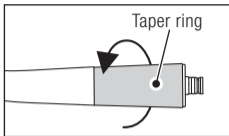

Fig. 42
- 1 Loosen and remove the taper ring at the rear of the handpiece (Fig. 42).